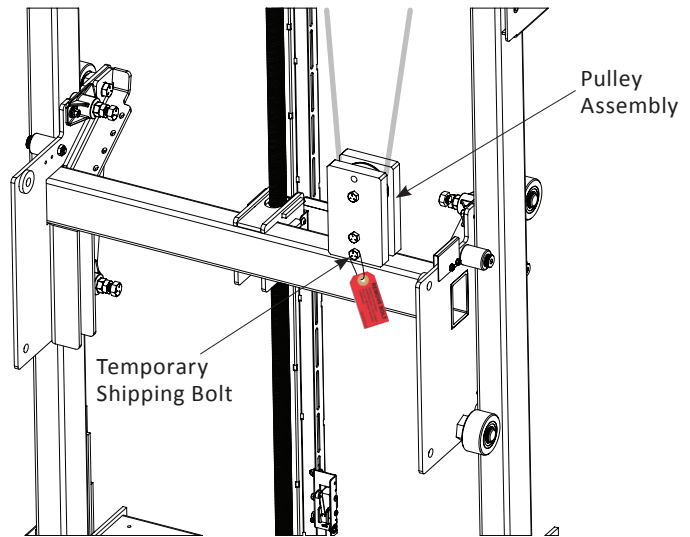

Figure 4-2
1. Remove and discard the temporary bolt and nut ($\frac{9}{16}$ " hex) that secures the tensioning pulley to the carriage for shipping. This bolt is indicated with a red tag. Suspend the pulley assembly behind the carriage. *See Figure 4-2.*